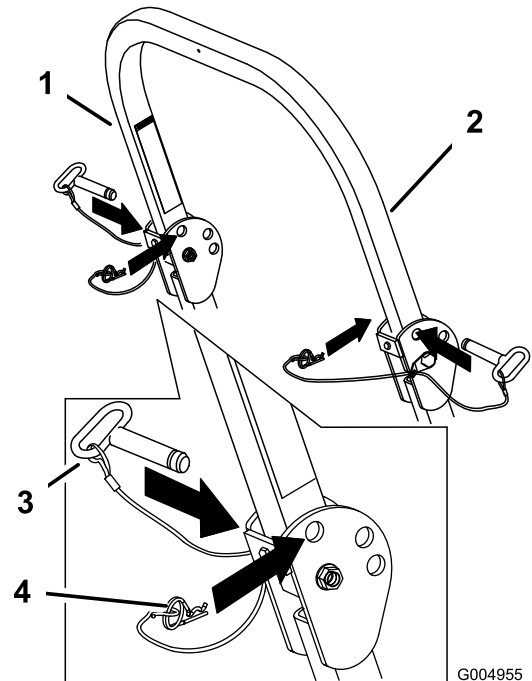

Figure 9
1. Remove the hairpin cotters and remove the 2 pins (Figure 9).
3. Install the 2 pins and secure them with the hairpin cotters (Figure 9).
4. To raise the roll bar, remove the hairpin cotter and remove the 2 pins (Figure 9).
5. Raise the roll bar to the upright position and install the 2 pins and secure them with the hairpin cotters (Figure 9).